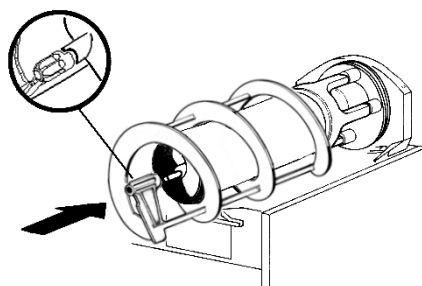

figure 13
- 5 Insert the auger into the evaporator taking care to accompany it to the end so as to prevent it from hitting against the rear wall (see figure 13).